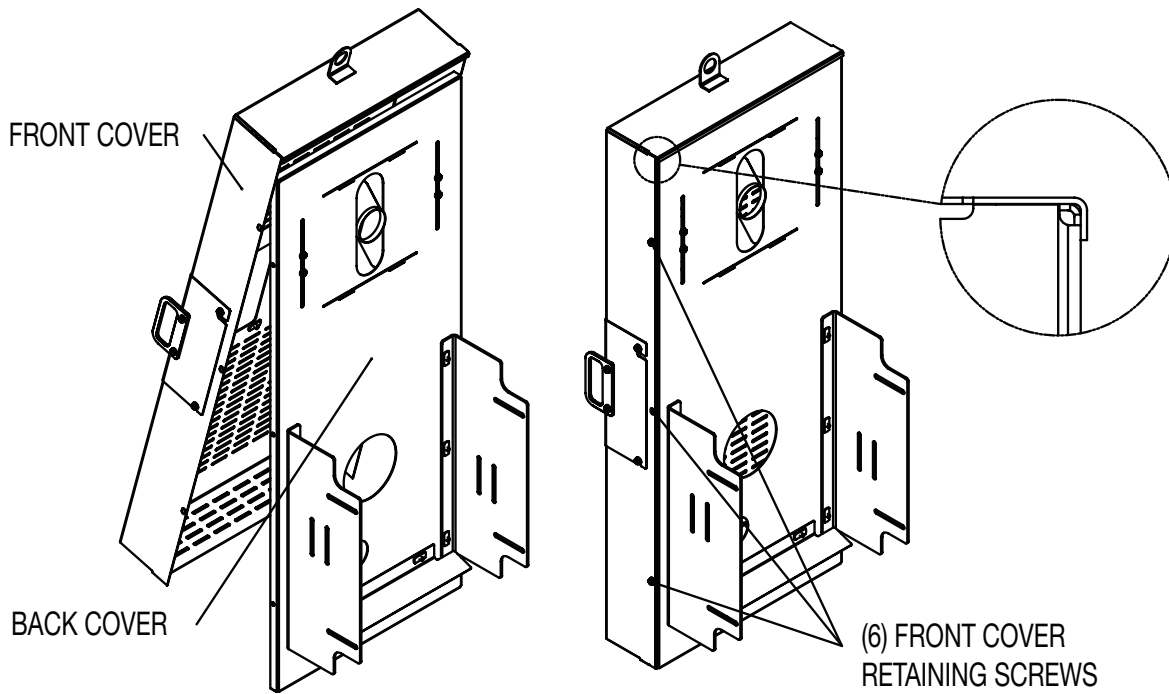
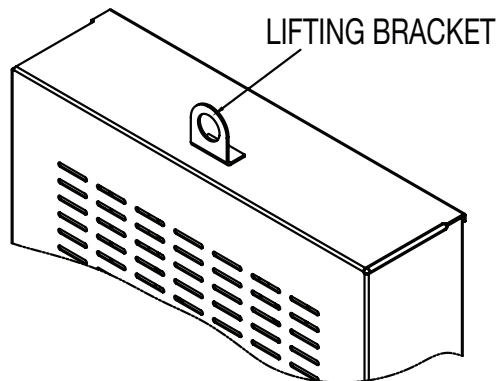

Figure 5 - Installation of the front cover
Figure 6 - Use of the lifting bracket
5. Install the front cover by lifting the front cover higher than the top of the back cover using the lifting handles or lifting bracket, shown in Figure 6, attached to the front cover. Use an appropriate lifting device when using the lifting bracket. The lifting bracket is to be used to only lift the front cover. The lip on the front cover must go over the top of the back cover. Refer to Figure 5.